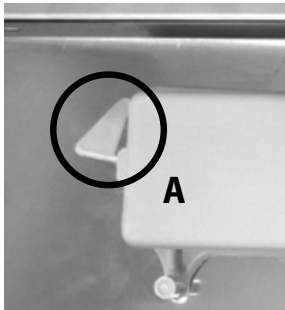

Fig. 5
- d) Operate the lever on the inner side of the top cover (Fig. 5, Pos. A) to the lower position you will open the air output on the upper front part.